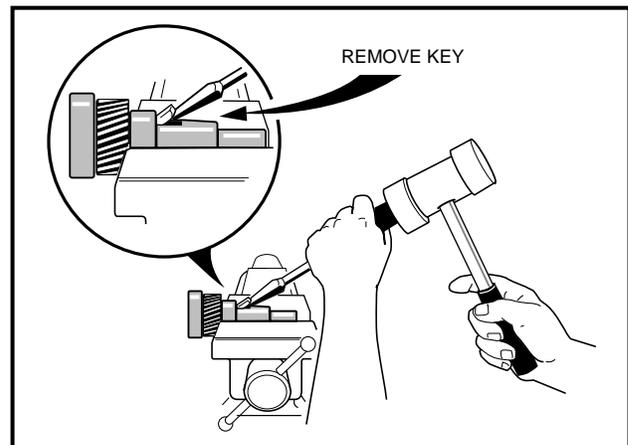

Figure 16-16 Remove Key
7. **Type K transaxles:** Remove key (22) (Figure 16-3, Page 16-3). See also Figure 16-16, Page 16-9.